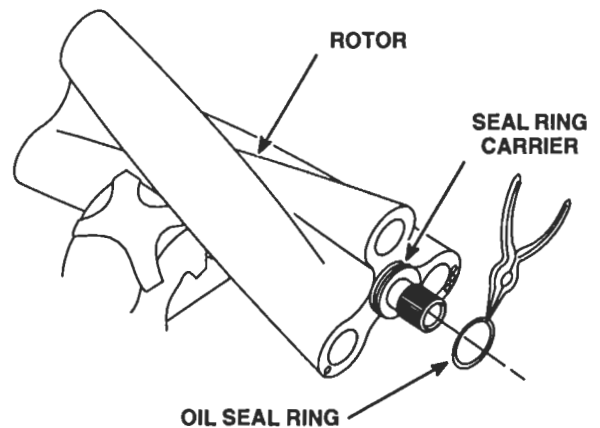

Figure 9. Removing Oil Seal Ring from Carrier
- a. Clamp one lobe of the rotor in a bench vise equipped with soft jaws (Figure 9.) Tighten the vise just enough to hold the rotor stationary.